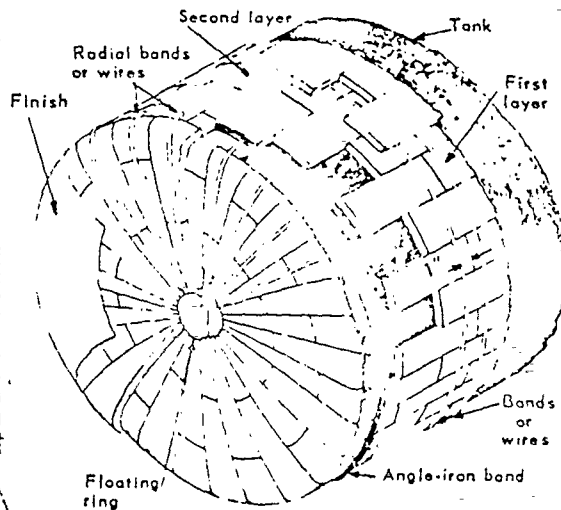

FIGURE 3
3.4 The insulation on heads or ends of cylindrical equipment shall be secured by tight bands or wires that are not over 4 inches apart and fastened to clips, angle iron bands, or steel bands encircling the tank behind the rivet heads or circumferential head weld. See Figure 3. The insulation on the cylindrical tank shall be held in place at the center of the head by radial wires or bands fastened to clips or a floating ring. Fibrous Adhesive, Code 803, can be used to support insulation on overhead surfaces until bands or wires can be applied. All chipped edges, cracks, or imperfections shall be filled and smoothed with Insulation Cement, Code 502.